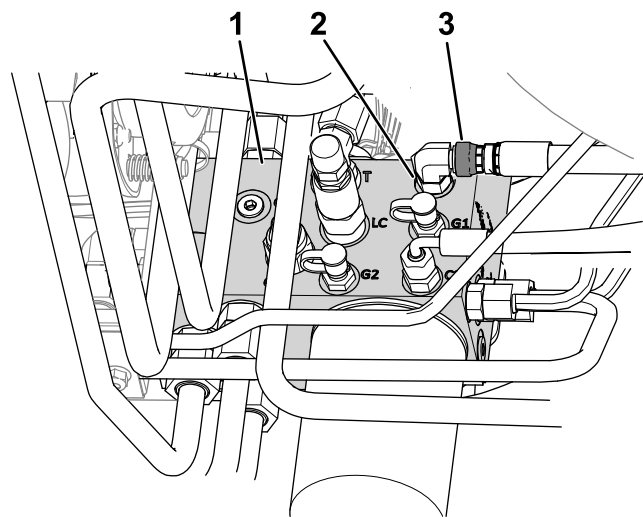

Figure 8
- B. Loosen the hose swivel nut connected to port C1 of the hydraulic manifold (Figure 8).
- E. Torque the hose swivel nut on port C1 (Figure 8) to 41 N·m (30 ft-lb).